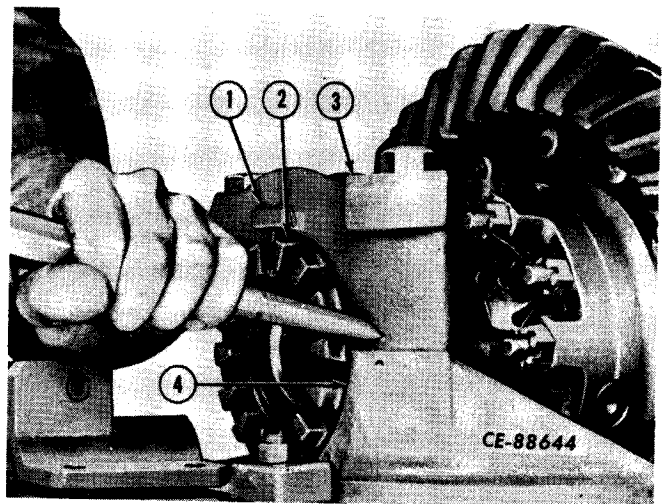

Figure 6-36
The bearing caps (3, Fig. 6-36) and carrier housing legs (4) are marked at the factory to assure correct assembly. If the original identification marks are not clear, mark one bearing